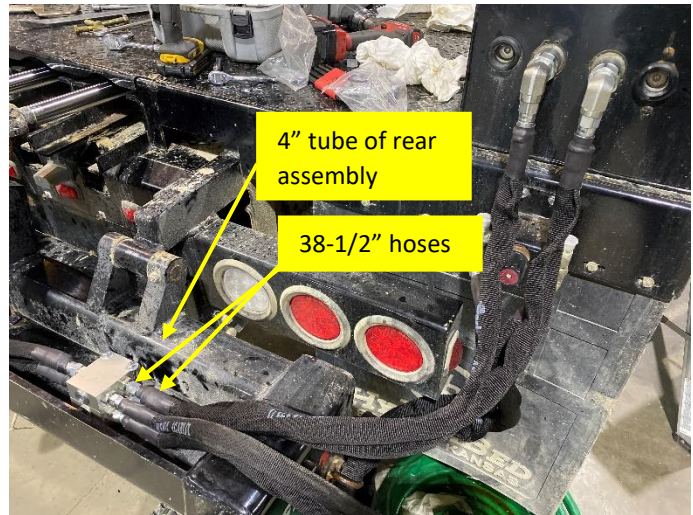

Figure 10
8. Connect the open end of the 38-1/2-inch hoses to the #6JIC fittings on the hydraulic blocks closest to the 4" tube on the rear assembly installed in Step 4. **Figure 10**